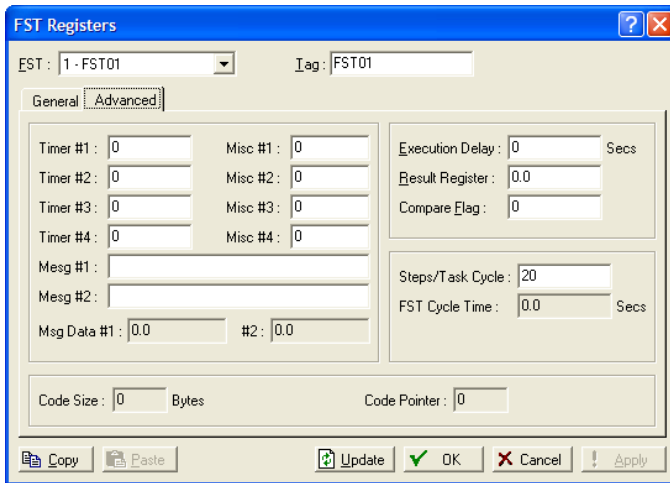

Figure 1-5. FST Registers, Advanced tab (ROC800-Series)
Register #1 through Register #10 (R1 through R10)	Set up to 10 floating point values for the FST. By default, FSTs automatically write to and read all results from the Results Register (RR) unless you use the Argument fields in the FST workspace (see Figure 1-5) to store or acquire a value from registers 1 through 10.